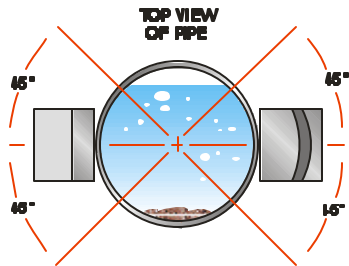

Figure 1.2
- A. In general, select a mounting location on the piping system with a minimum of 10 pipe diameters (10 X the pipe inside diameter) of straight pipe upstream and 5 straight diameters downstream. The installation location should also be positioned so that the pipe remains full when the liquid is flowing through it. On horizontal pipes the transducers should be located on the sides of the pipe. **See Figure 1.2.** See **Table 2.1** for additional configurations.